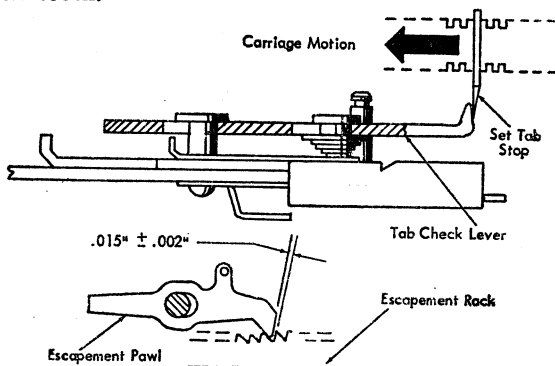

Figure 21. Tab Rack Adjustment, 4A
A. LEFT TO RIGHT. The tab rack should be adjusted left or right so that there is a clearance of $.015'' \pm .002''$ between the working surfaces of the escapement pawl and an escapement rack tooth when the tab-check lever is in its extreme left position (Figure 21).
(1) Depress the tab cam with the power OFF and rotate the power roll by hand until the tab cam is near its high point.
(2) Allow the carriage to move to the left so that a set tab stop positions the tab-check lever to its extreme left position.
(3) Observe the clearance between the working surfaces of the escapement pawl and the escapement-rack tooth.